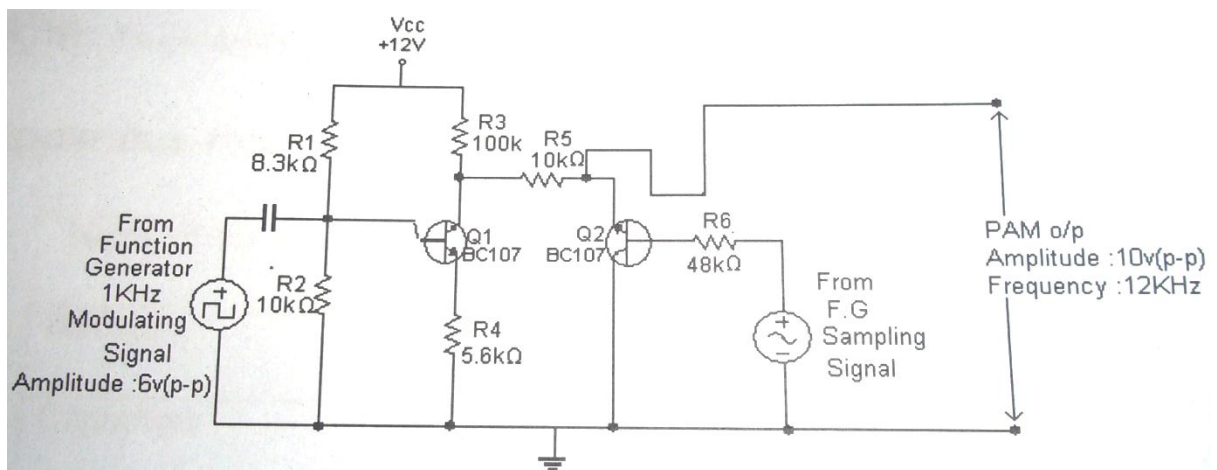

Fig: 3. Pulse Amplitude Modulation Circuit
1. Connect the circuit as per the circuit diagram shown in the fig 3